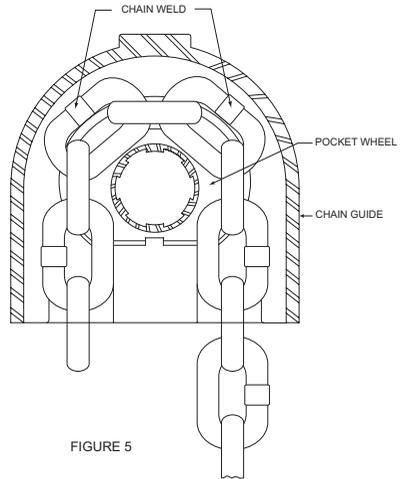

FIGURE 5
INSTALLING LOAD CHAIN      FIGURE 5
**LINK CHAIN MODELS** - Position hoist in a vise or other suitable holding device (figure 5) and remove housing cap, brake spring and brake shoes. Turn brake wheel by hand to rotate pocketwheel while carefully feeding chain thru chain guide and around pocketwheel. Pull sufficient chain thru housing to allow end link of chain to be attached to anchor lug on housing.
**IMPORTANT NOTICE:** The link chain must be positioned around the pocketwheel so the weld on the standing links of chain face outward from pocketwheel (figure 5). ALSO, the end link of chain must be fed over pocketwheel so it will be positioned properly to permit attaching chain to anchor lug on housing without twisting of chain (figure 16).